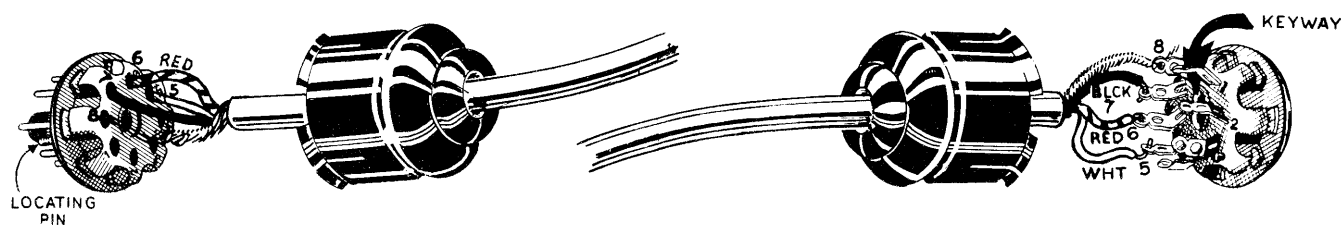

Figure 19
- () Locate the length of 3 conductor shielded cable. Referring to Figure 19, strip the outer jacket for a distance of 1" from each end of the cable. Then unbraid and twist the shield into a pigtail. On one end, strip and tin each wire for a distance of $\frac{3}{8}$ ". Slide an octal socket cap over this end and connect the white lead to pin 5, the red to pin 6, the black to pin 7, and the shield to pin 8 of a female octal socket. Now snap the cover into place. At the other end, strip and tin each lead for a distance of $\frac{1}{2}$ ". Slide an octal plug cover over the cable. Connect the white lead to pin 5, the red to pin 6, and the black to pin 7 of a male octal plug. Using a short length of #20 bare wire, connect the shield to pin 8. Trim off any excess shield. Now snap the cover into place.